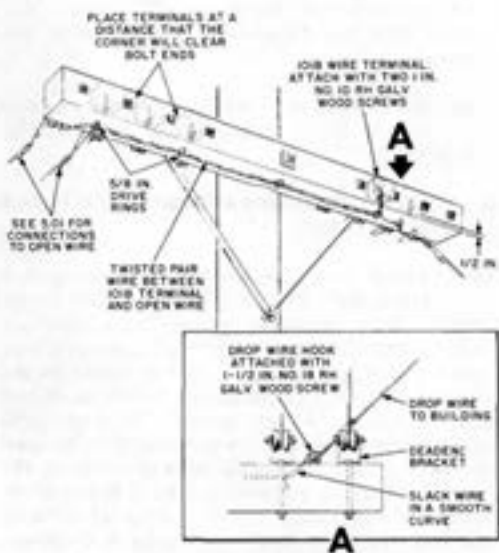

Fig. 3—Wiring Arrangement on DE Crossarms not Having Back Braces
4.11 Crossarms equipped with deadend brackets (Fig. 3).
- 4.13 At double crossarms equipped with deadend brackets, follow the general wiring method as shown in Fig. 3, locating the 101B terminal on the outer side of the crossarm not equipped with deadend brackets. Locate the wire run on the underside of the same crossarm.